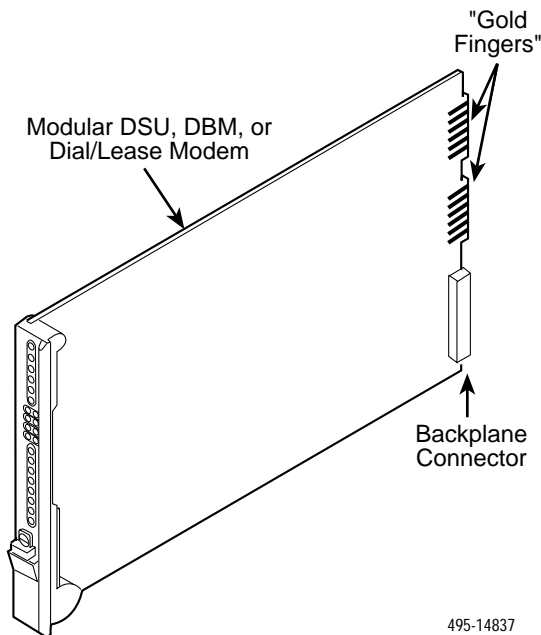

Figure 6-1. Modular Circuit Card
- DSUs, DBMs, and dial/lease modems, which occupy one slot in the carrier, and require a rear connector plate (Figure 6-1).